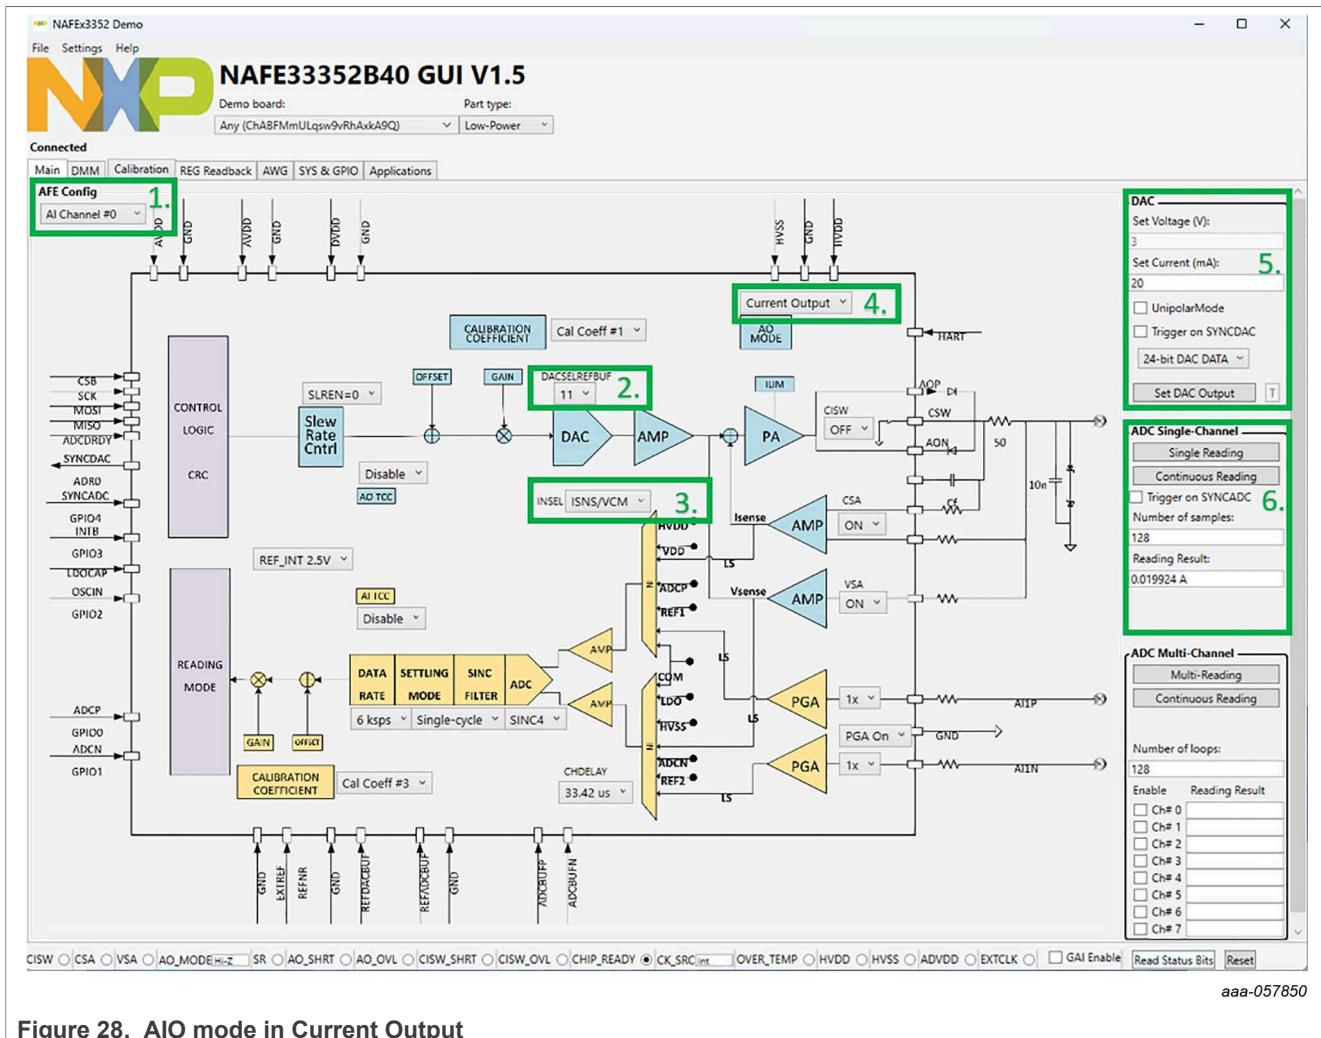

Figure 28. AIO mode in Current Output
Figure 28 shows the analog output set for Current Output (CO) mode: